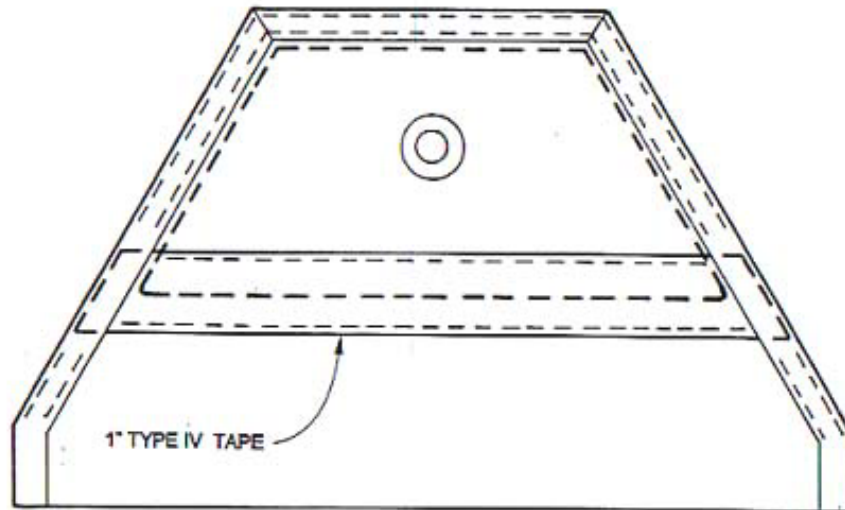

FIG. 4
4) Center the prepared piece of 1" Type IV tape over the edge of the stiffener and stitch as shown in FIG. 4.